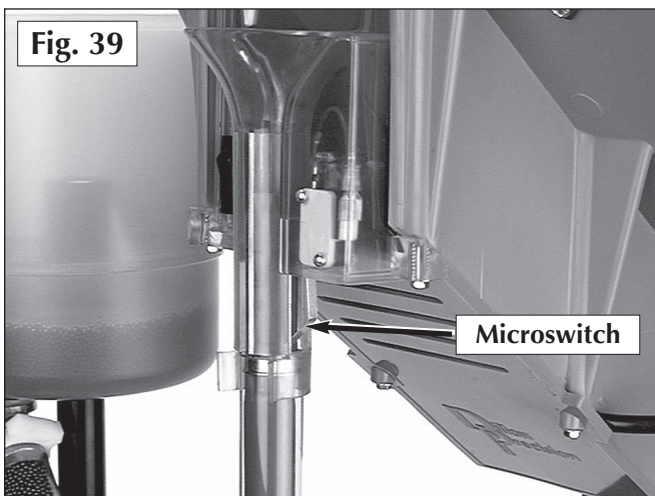

Fig. 39
4. The casefeeder will run until the casefeed tube (#20536) has filled, then shuts off automatically when a hull trips the microswitch. **Fig. 39** Insure that the